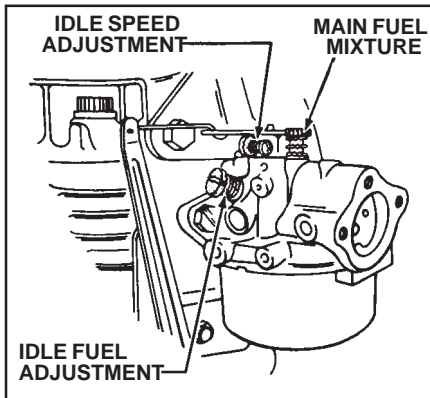

Fig. 5 Carburetor Adjustment
1. Stop the engine. Carefully turn the MAIN FUEL and IDLE FUEL NEEDLE adjusting screws all the way in (clockwise) until they bottom (Fig. 5). DO NOT FORCE SCREWS as this will damage needle valves